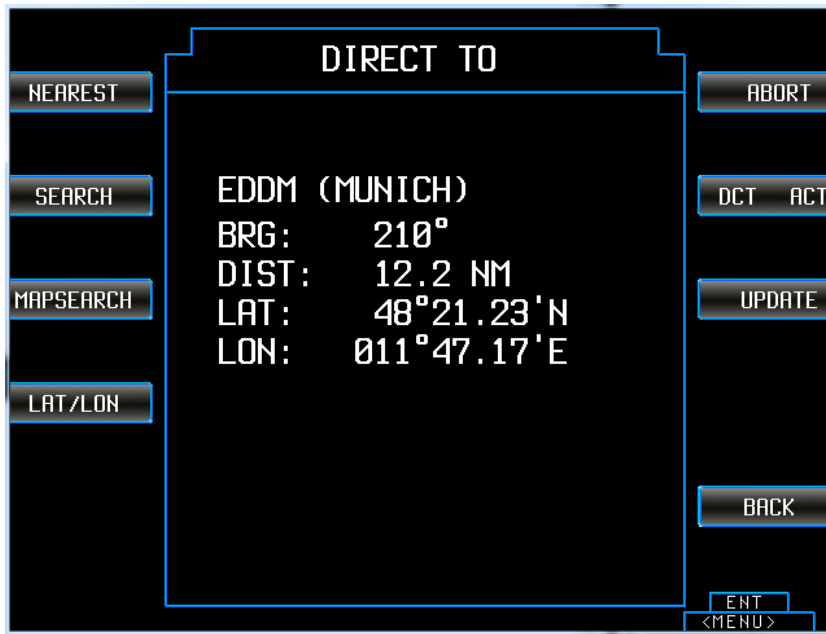

Figure 60: Direct-to "DCT", active waypoint, "UPDATE"
- In contrast to the continuously updated waypoint position, the bearing line does not updated permanently; you have to do this manually in the Direct-to mask (Figure 60).
- You have to update this manually in the Direct-to mask (Figure 60).
"DCT INAC"	If "DCT INAC", is displayed means a waypoint exists but it is inactive. Only an activated waypoint can be updated (Figure 60).
"UPDATE"	It serves to synchronize the bearing with the current aircraft position. It is only visible when a Direct-to waypoint is activated (Figure 60).